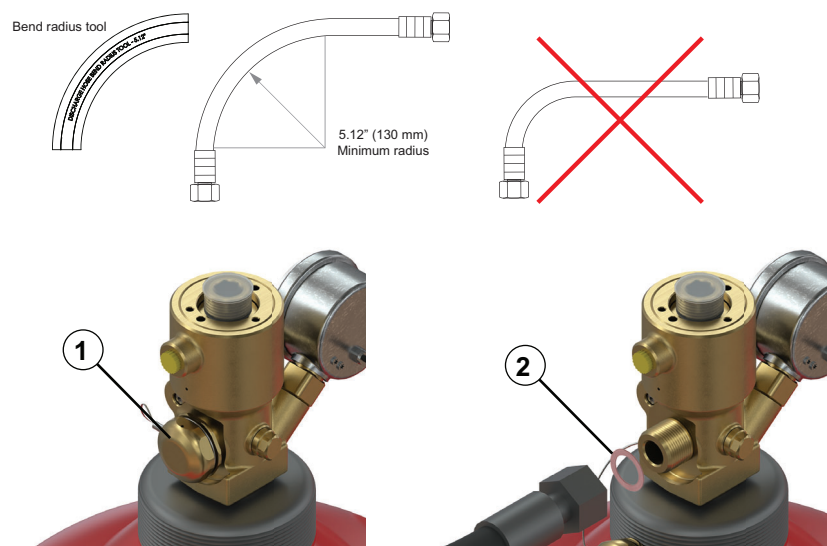
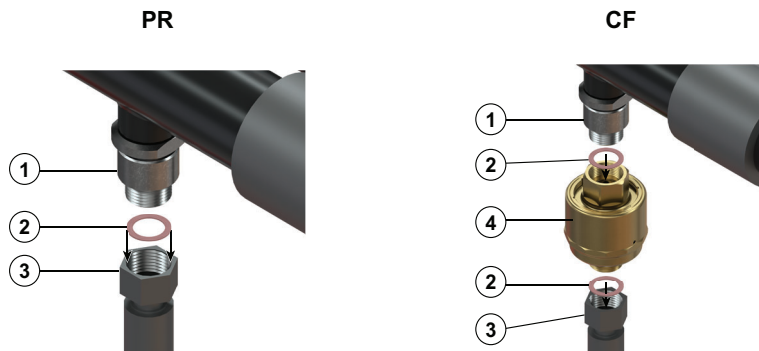

Figure 6.10: Installing the hose onto the cylinder valve
Figure 6.11: Installing the hose and/or regulator onto the manifold
- Do not bend the hose less than its MINIMUM radius of 5.12 inches (130 mm). Refer to Figure 6.10
2. Insert a gasket (2) into an end of the hose.
- Do not bend the hose less than its **MINIMUM** radius of 5.12 inches (130 mm). Refer to Figure 6.10 on page 80.
- For PR only, screw the hose union (3) onto the preinstalled manifold check valve (1) to a torque of 40.16 ± 3.7 ft-lb. This concludes the procedure for the PR system.
- For CF only, install the pressure regulator (4) between the hose (3) and the check valve (1) as shown in Figure 6.11 .
- Do not bend the hose less than its **MINIMUM** radius of 5.12 inches (130 mm). Refer to Figure 6.10